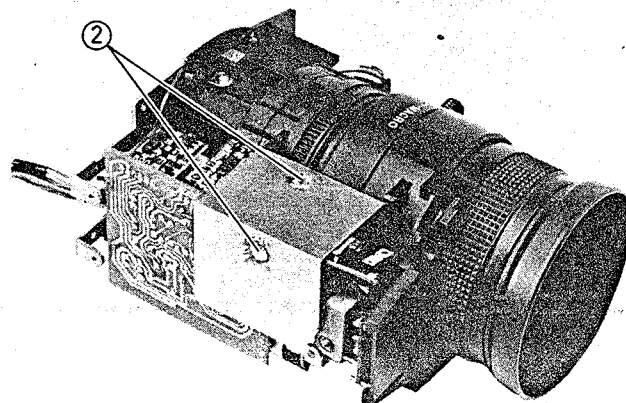

Fig. 2-127 Auto Focus Circuit Board Removal
Auto Focus Circuit Board Removal (Figs. 2-127, 2-128, 2-129)
2. Unsolder two (2) points and remove the auto focus circuit board shield cover. (See Fig. 2-127)
2. Remove the auto focus circuit board. (See Figs. 2-127, 2-128, 2-129)